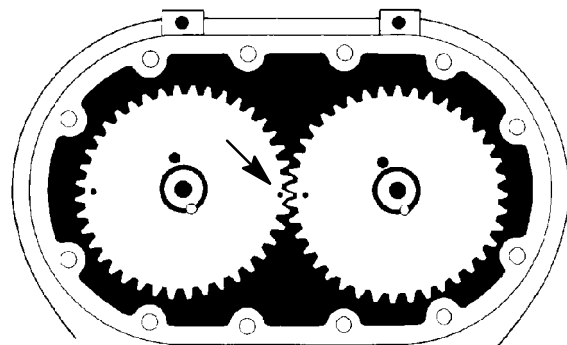

FIGURE 13
5. If timing gears appear to be reusable, matchmark timing gear toothmesh by making small punch marks on the ends of meshing gear teeth with a pin punch and hammer (see FIGURE 13, page 15). The impeller tip to valley (throat) and the case to headplates should also be match marked to facilitate blower reassembly.